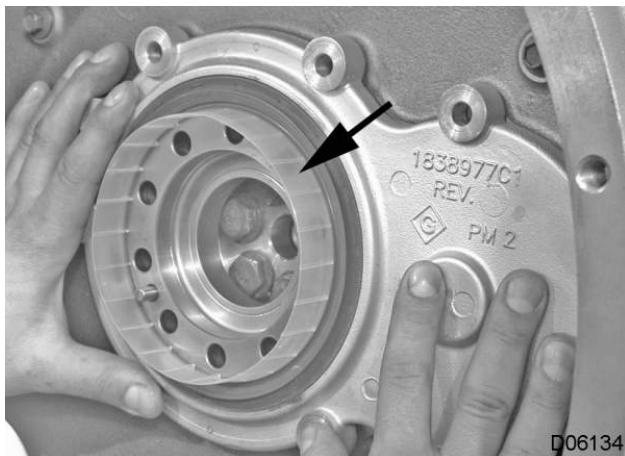

Figure 40 Press Rear Oil Seal Retainer and Seal Over Secondary Flange Gear
43. Press the rear oil seal retainer and seal onto the secondary flange (Figure 40) maintaining alignment of mounting bolt holes in the rear cover. As the retainer and seal assembly slide over the secondary flange, the plastic installation tool will slowly move out of the seal.